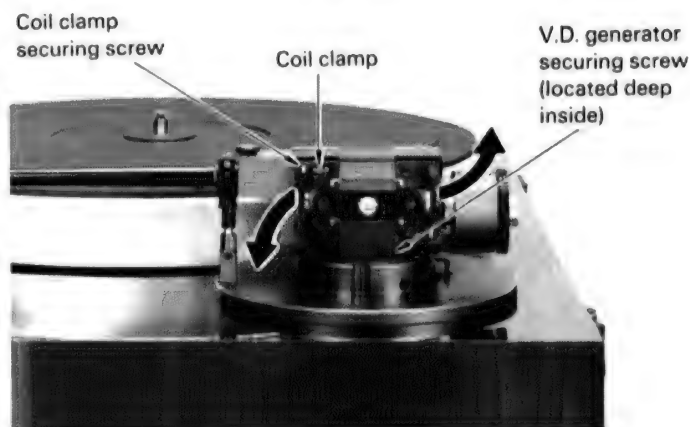

Fig. 25
■ Removal of V.D. Generator (Figs. 25 and 27)